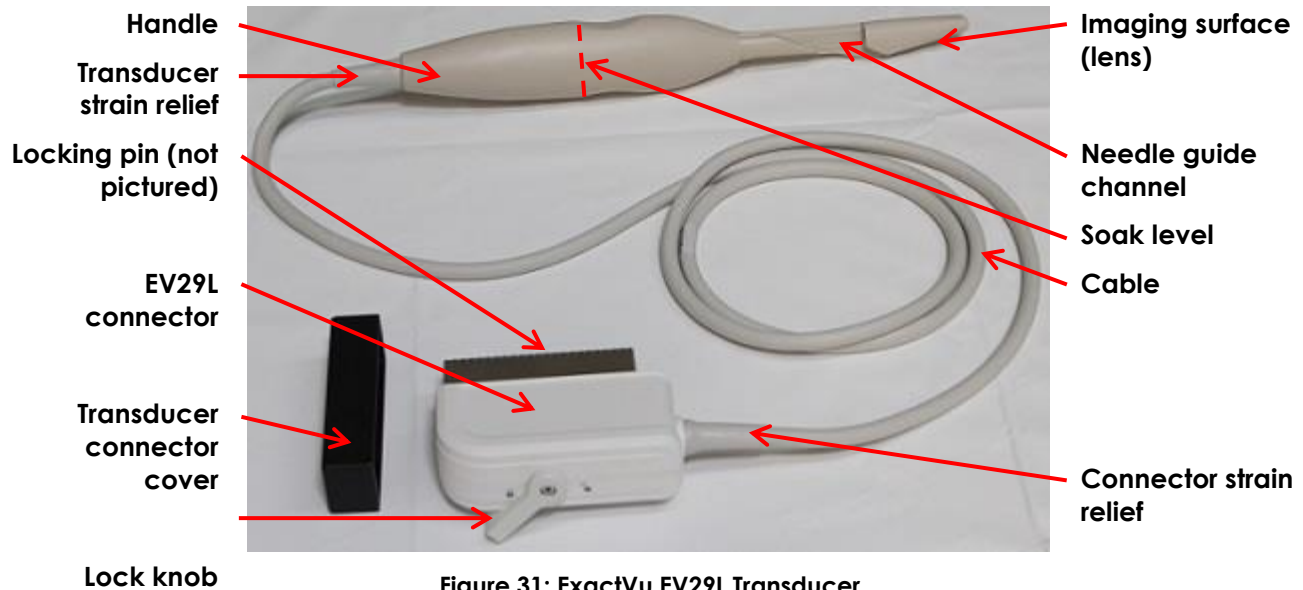

Figure 31: ExactVu EV29L Transducer
This procedure calls for washing, soaking and rinsing the transducer in various solutions. In all cases, the transducer should be exposed to solution levels that are approximately half-way up the handle (refer to *soak level* in Figure 31).
- The parts of the EV29L transducer that do not come into contact with the sheath during a TRUS procedure, or in other words, the part of the transducer that is above the *soak level* (refer to Figure 31).
In this procedure, *above the soak level* means the direction away from the imaging surface (refer to Figure 31).
- The parts of the EV29L transducer that come into contact with the sheath during a TRUS procedure, or in other words, the part of the transducer that is on or below the *soak level* (refer to Figure 31). For parts above the *soak level* (including the cable), refer to section 2.2.
- Fill the *cleaner container* with a sufficient volume of cleaning solution for the EV29L transducer to be immersed to the *soak level* indicated in Figure 31.
- Immerse the EV29L transducer in the cleaning solution to the *soak level* indicated in Figure 31.
- Fill the *high-level disinfection container* with a sufficient volume of high-level disinfectant for the EV29L transducer to be immersed to the *soak level* indicated in Figure 31.
- Immerse the EV29L transducer in the high-level disinfectant to the *soak level* indicated in Figure 31.